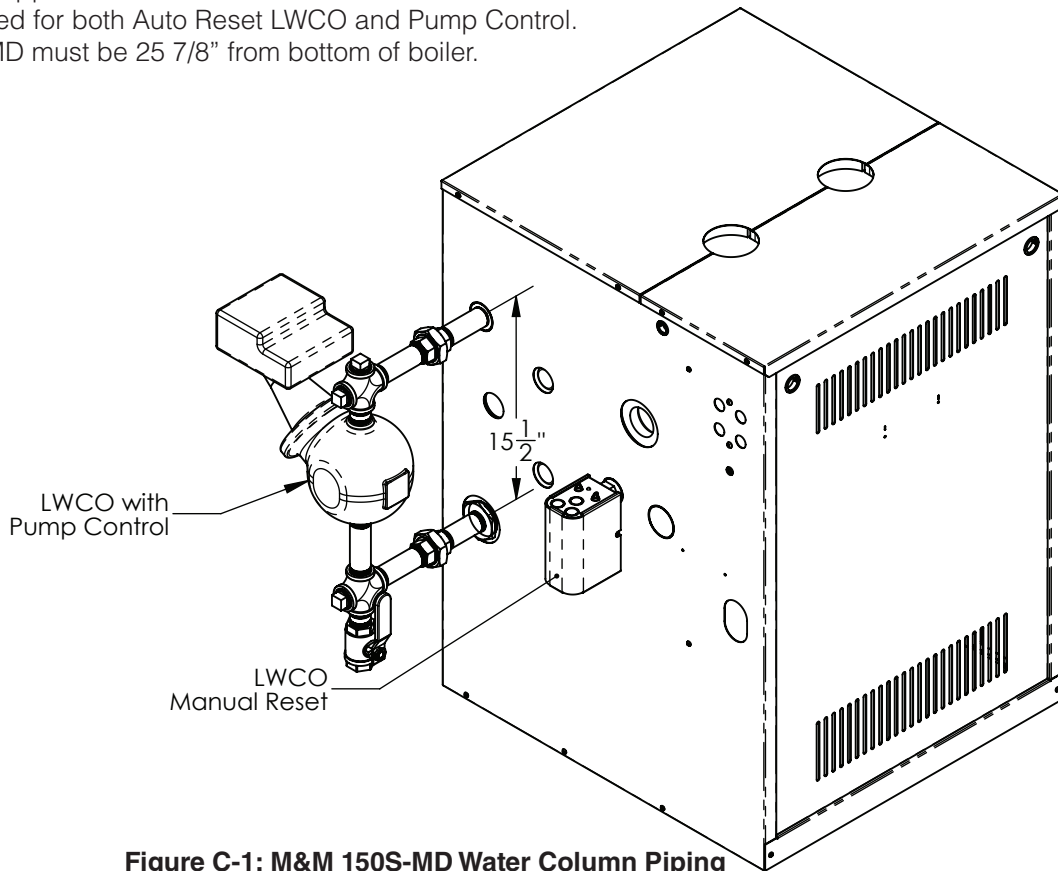

**Figure B-2: Indirect Water Heater (IWH) Wiring**
4. Boiler Limit Control - Use a SPST break-on-rise temperature limit control such as the Honeywell L4006A. Do not set limit above 180°F as doing so may cause boiler to steam when there is no call for heat. See Figure B-2 for wiring.
6. Figure B-2 shows field wiring for an indirect water heater. A Honeywell R8845U or equivalent DPST relay and transformer is required. Limit control as described in Section 4 must also be supplied by installer. A call for heat from the IWH thermostat will energize relay making both sets of contacts. One contact energizes the circulator. Other contact will make boiler "T"- "T" circuit, firing burners. If boiler water temperature exceeds high limit setting of 180°F, high limit will open boiler "T"- "T" circuit and burners will shut down.